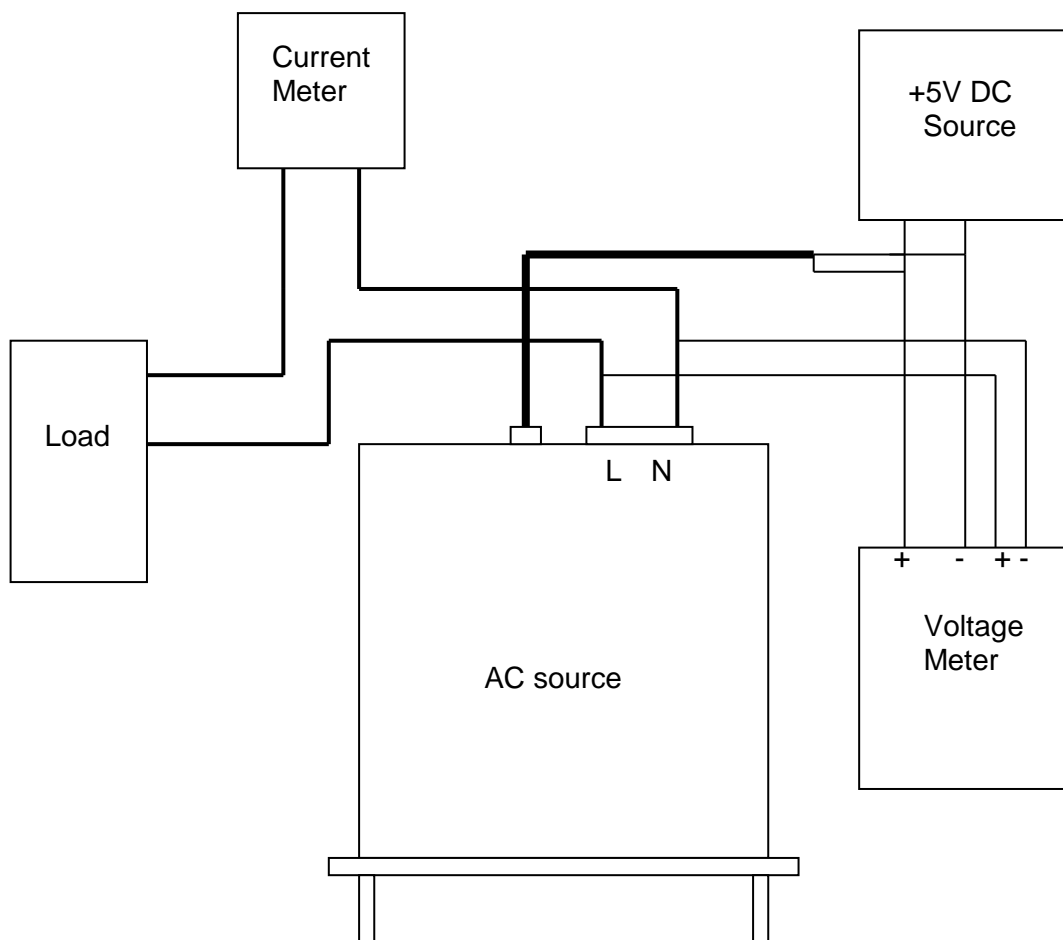

Figure 4-1
The ac source built a simple way to calibrate the output and measurement accuracy without opening cover. Users can do it just follow the procedures step by step. A voltage meter, current meter, suitable load and +5V dc source are needed for while calibration procedure. Connections for these instruments please refer to Figure 4-1. There are three items need to calibrate. But it is not necessary to calibrate all at once. User can just choose one item if needs.
- 1. The Vdc offset may be positive or negative. The positive of DVM connect to the Line of AC source output, and the negative of DVM connect to the Neutral of AC source output. See Figure 4-1.